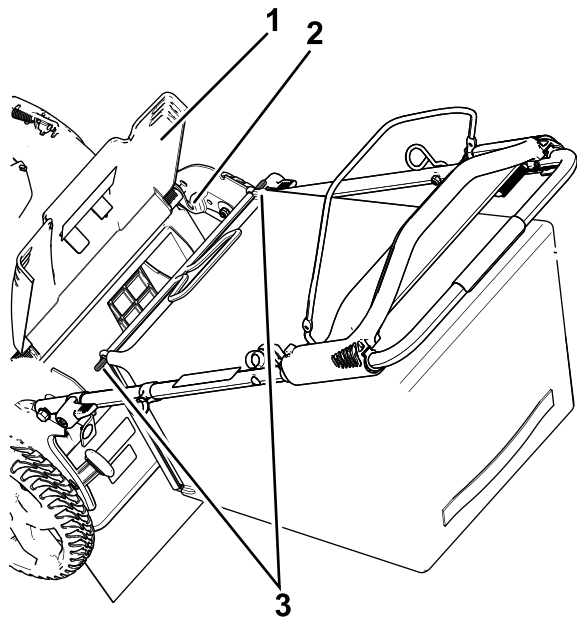

Figure 19
1. Raise and hold up the rear door (Figure 19).
2. Install the grass bag, ensuring that the pins on the bag rest in the notches on the handle (Figure 19).